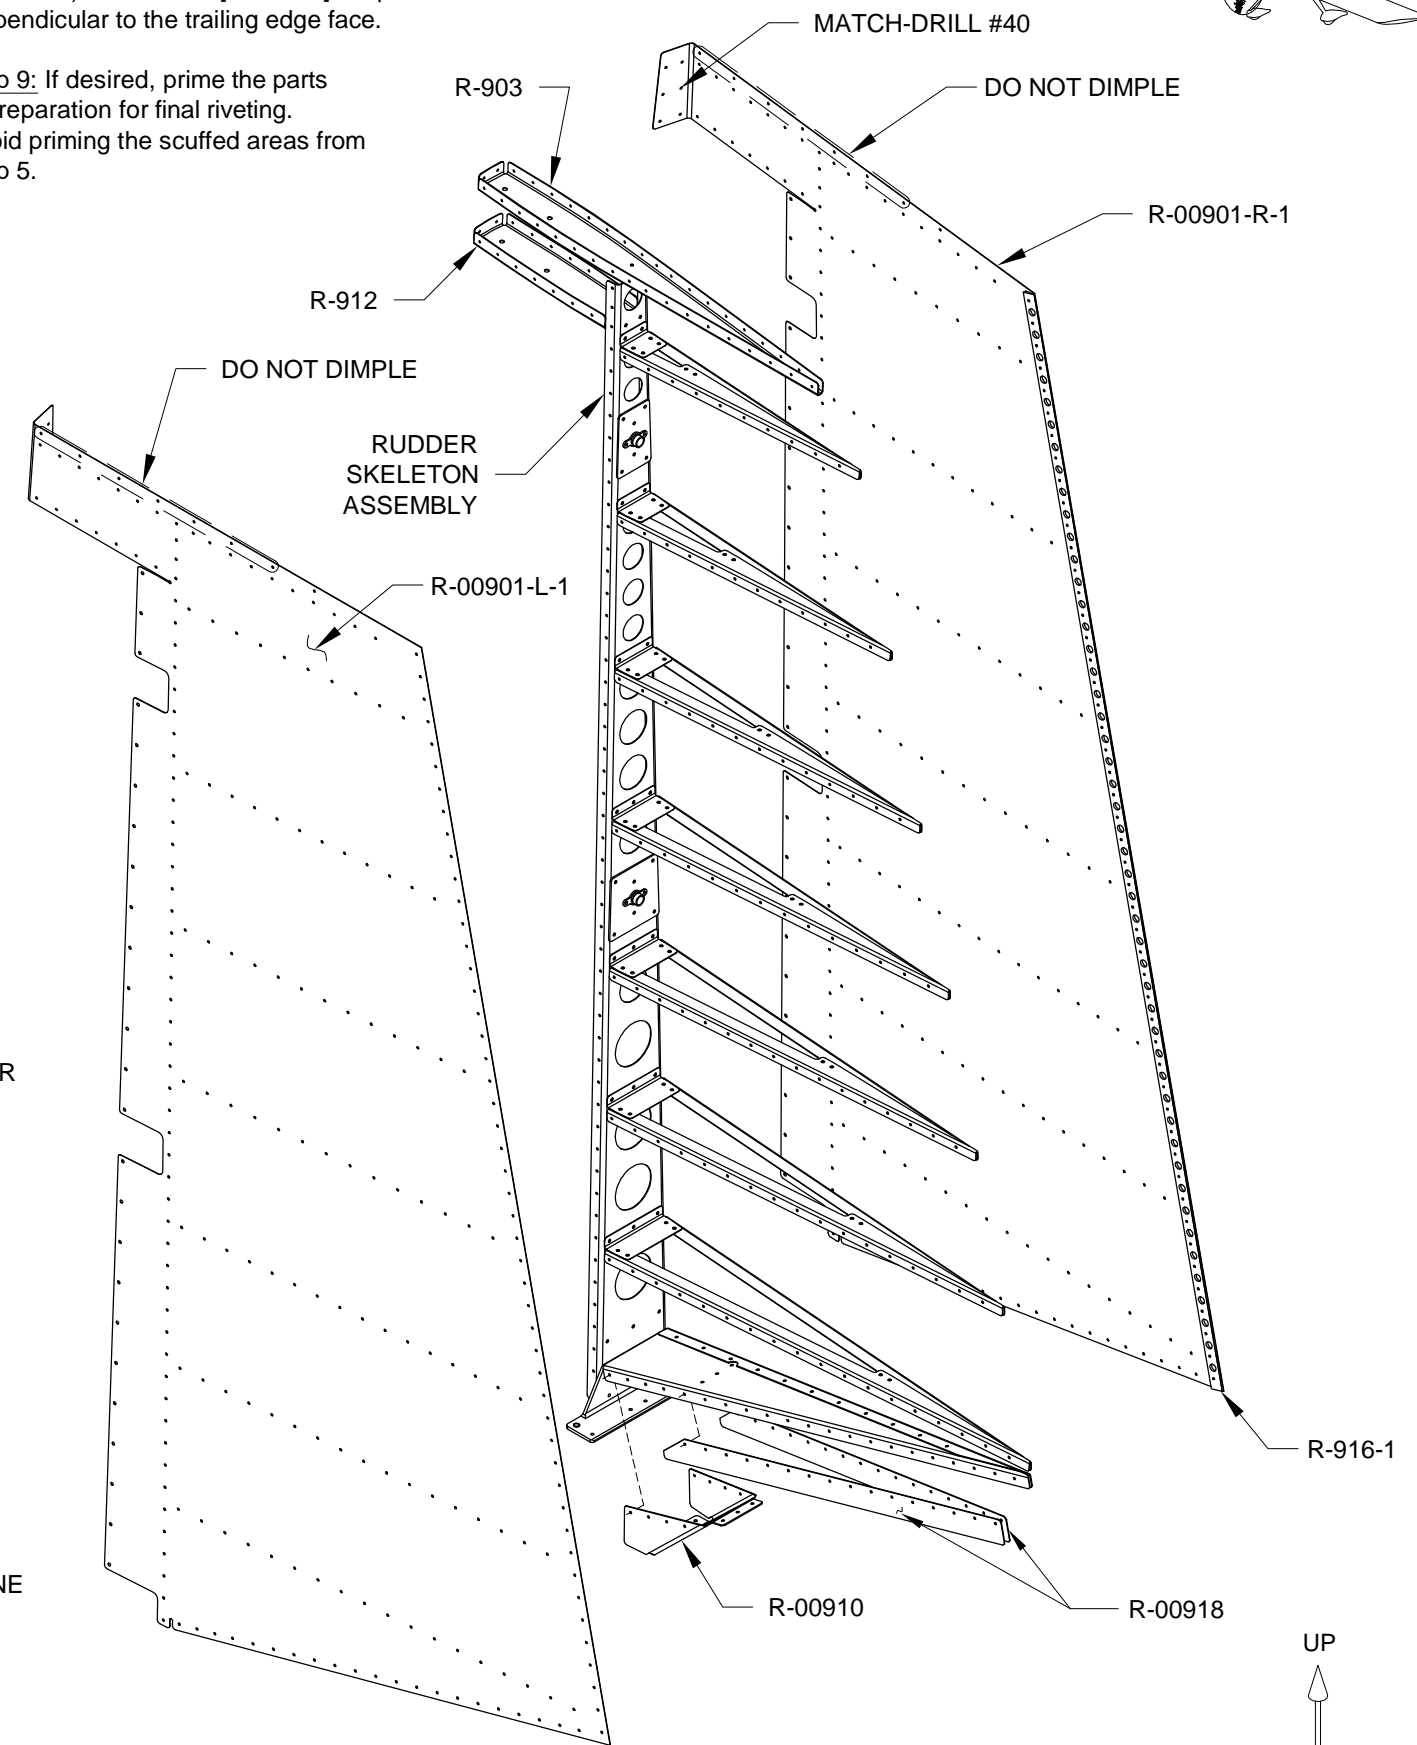

FIGURE 3: RUDDER ASSEMBLY
Step 4: Match-Drill #40 the hole in the forward flange of the R-00901-L-1 Skin into the R-00901-R-1 Skin as shown in Figure 3.
NOTE: Do not dimple the holes called out in Figure 3 at the top of the R-00901-L-1 and R-00901-R-1 Skins. These will be drilled and dimpled in a later section. Tape over holes to avoid dimpling. See Section 5.5 for more information on dimpling parts.